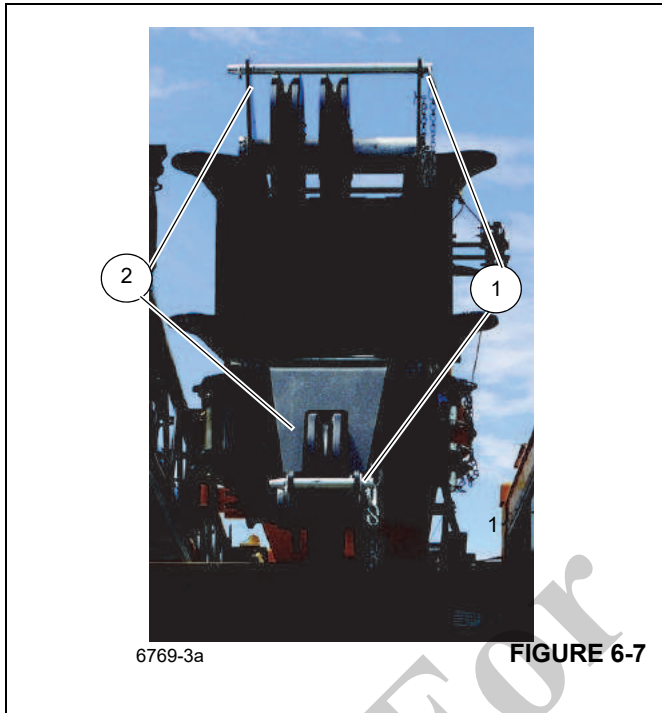

FIGURE 6-7
1. Remove the upper and lower retaining rods (1), (Figure 6-7).
2. Guide the rope over the upper and lower boom nose sheaves (2), (Figure 6-7).
3. Reinstall the upper retaining and lower retaining rods and secure with retaining clips (1), (Figure 6-7).
2. Remove the upper and lower retaining rods (1), (Figure 6-7).
3. Take the wire rope off the upper and lower boom nose sheave (2), (Figure 6-7) and place it on the ground on the left side of the boom.
4. Replace all retaining rods and secure them with retaining clips (1), (Figure 6-7).